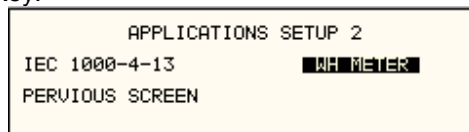

Figure 9-43: Application Screen
- From the Menu screen 2, select the APPLICATIONS SETUP 2 screen. The screen will appear as shown in Figure 9-43. Use the up and down key to position the cursor to the WH METER field. Press the Enter Key.